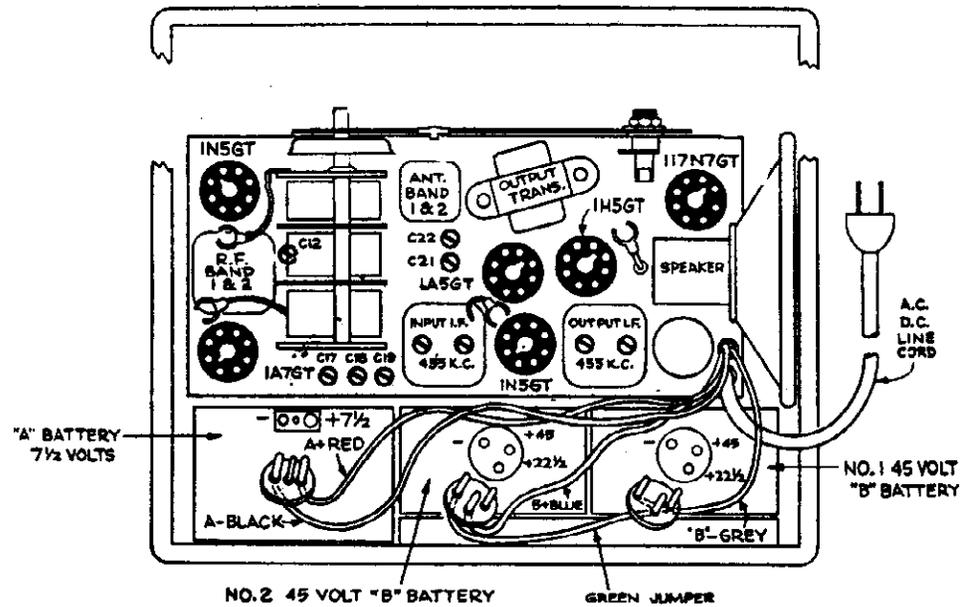

FIG. 1
2. Place the three batteries in the cabinet exactly as shown in the above illustration (Fig. 1).
4. Next insert the two three-prong "B" battery plugs into the sockets on the "B" batteries, marked "Battery No. 1" and "Battery No. 2" in Fig. 1.